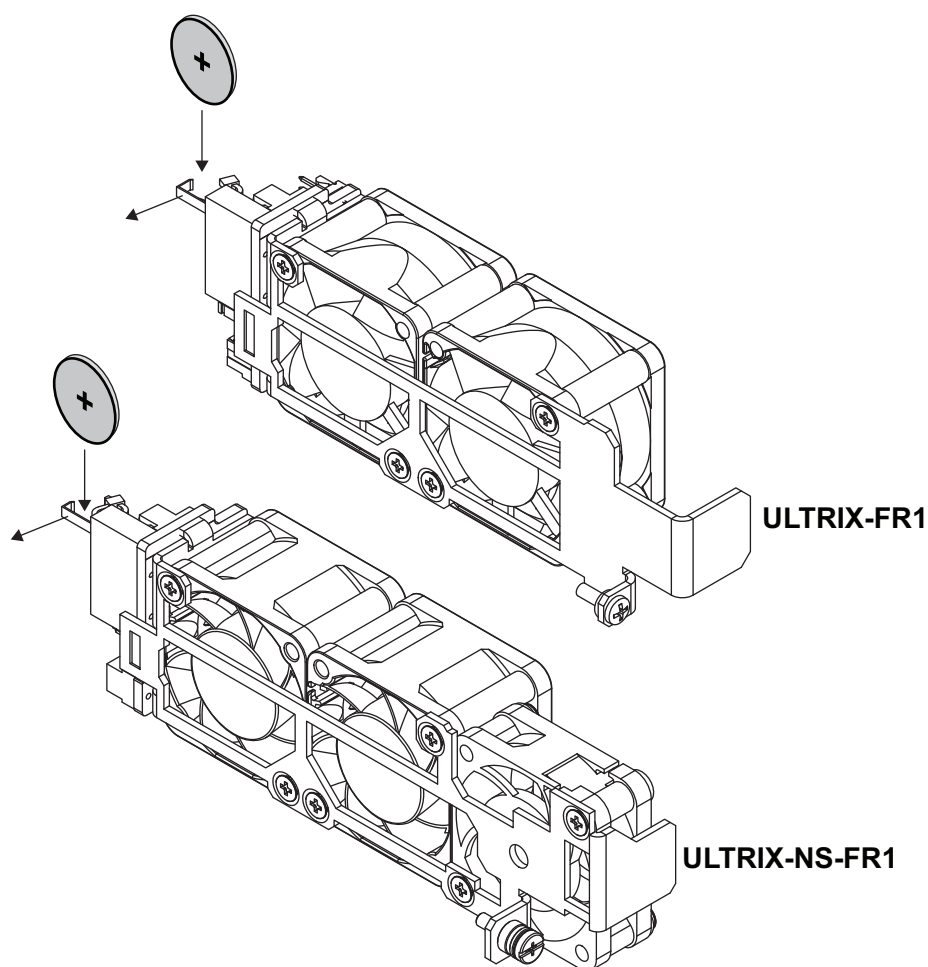

Figure 94 New Battery Orientation —ULTRIX-FR1 and ULTRIX-NS-FR1
1. Hold the battery in one hand and orient it so that the Positive side (+) faces away from you. (Figure 94)
1. Hold the battery in one hand and orient it so that the Positive side (+) faces away from you. (**Figure 94**)